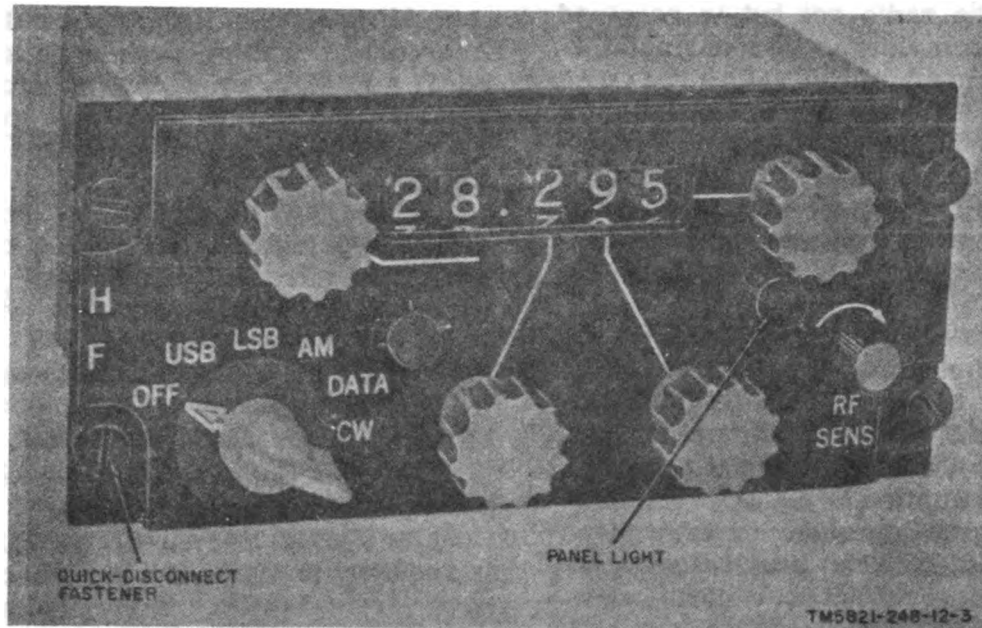

Figure 3. Control unit.
10. Description of Control Unit (fig. 3)